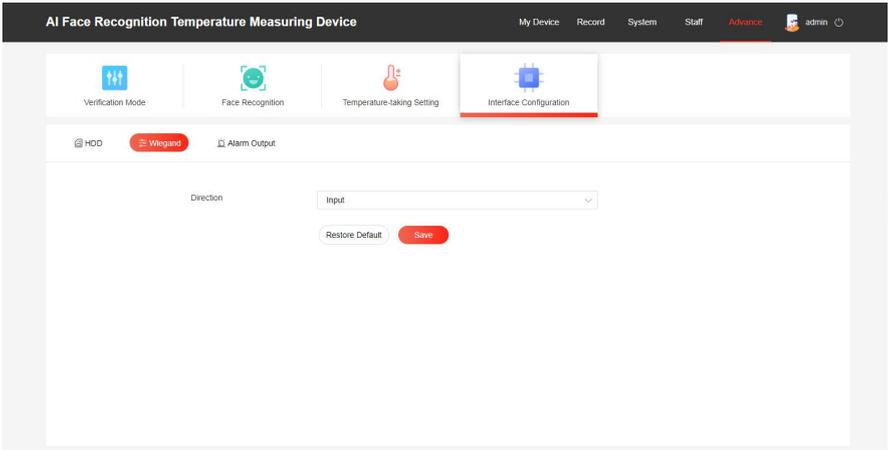

Figure 7-27
Step 1: After logging in to the web page, click "Advance → Interface Configuration → Wiegand" to enter the Wiegand Setting interface, as shown in Figure 7-27 below.